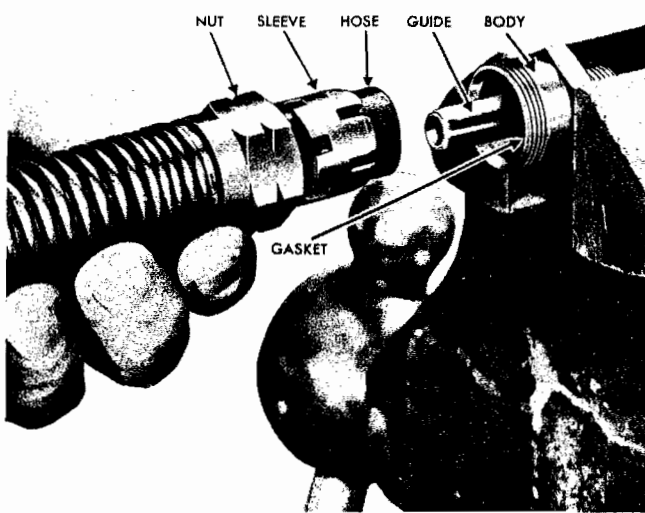

Fig. 22
8. Put end of hose in connector body, making sure that end of hose is against gasket at bottom of the recess (Fig. 22).